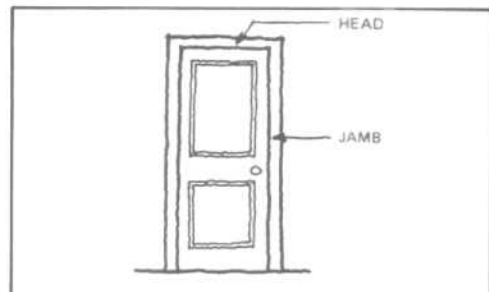
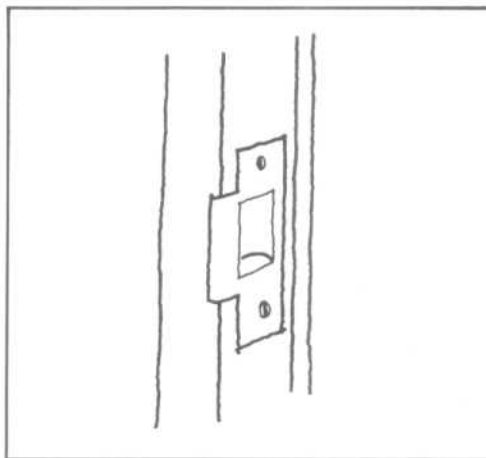

Fig. 4 Door frame.
Fig. 5 Door strike.
The sides and top of a doorway are provided with a door frame which holds the door in position. The side members of the door frame are called jambs; the top member is called the head (see Fig. 4). The strike is the portion of the jamb which is cut out or drilled out to allow installation of a metal plate, which accepts the latch or bolt from the door lock (see Fig. 5).
**Strike:** The strike is the portion of the jamb where a metal plate has been placed to receive the deadbolt and/or the latch (see Fig. 5).